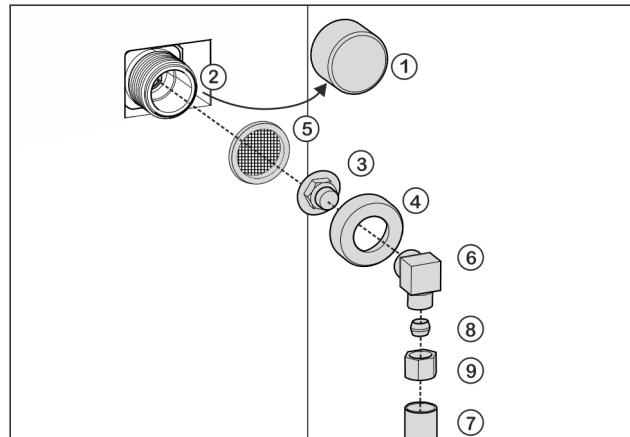

Fig. 19
- ▶ Remove cap Fig. 19 (1) from solenoid valve Fig. 19 (2).
► Insert coupler *Fig. 19 (3)* into union nut *Fig. 19 (4)*.
► Insert the filter *Fig. 19 (5)* with the recess pointing down towards the coupler *Fig. 19 (3)*.
► Screw the union nut *Fig. 19 (4)* by hand onto the thread of the solenoid valve *Fig. 19 (2)* until it is firmly in place.
► Screw on angle piece *Fig. 19 (6)*.
► Connect the water pipe *Fig. 19 (7)* (e. g. 1/4" OD copper pipe) with the clamp ring *Fig. 19 (8)* and nut *Fig. 19 (9)* to the elbow connector *Fig. 19 (6)*.
► If necessary: Fasten the water pipe *Fig. 19 (7)* to the housing with the guide clip.
► Put angle piece *Fig. 19 (6)* to one side.
► Connect the water pipe *Fig. 19 (7)* (e. g. 1/4" OD copper pipe) with the clamp ring *Fig. 19 (8)* and nut *Fig. 19 (9)* to the coupler *Fig. 19 (3)*.